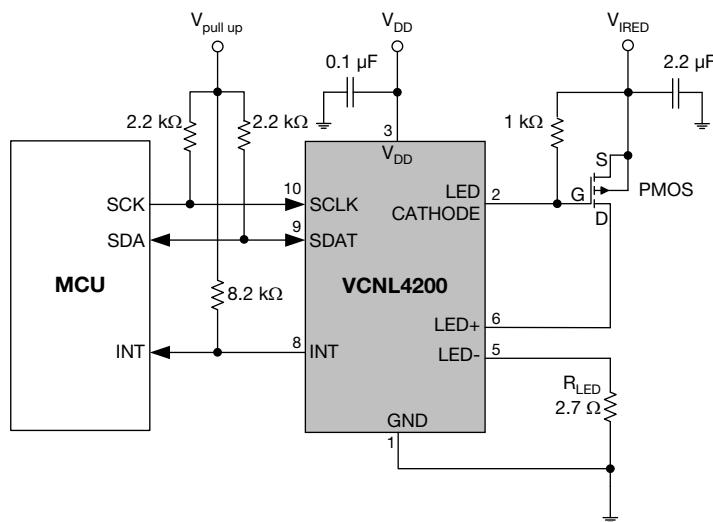

Fig. 11 - Application Diagram
- (1) Light source: white LED
- (2) Maximum detection range to ambient light can be determined by ALS refresh time adjustment. Refer to table 17 "ALS Resolution and Maximum Detection Range"
- (3) Based on IRED on / off duty ratio = 1/160, 1/320, 1/640, and 1/1280. The circuitry should use an external MOSFET as shown with Fig.11. Please see also the Application Note "Designing the VCNL4200 into an Application" ([www.vishay.com/doc?284327](http://www.vishay.com/doc?284327))